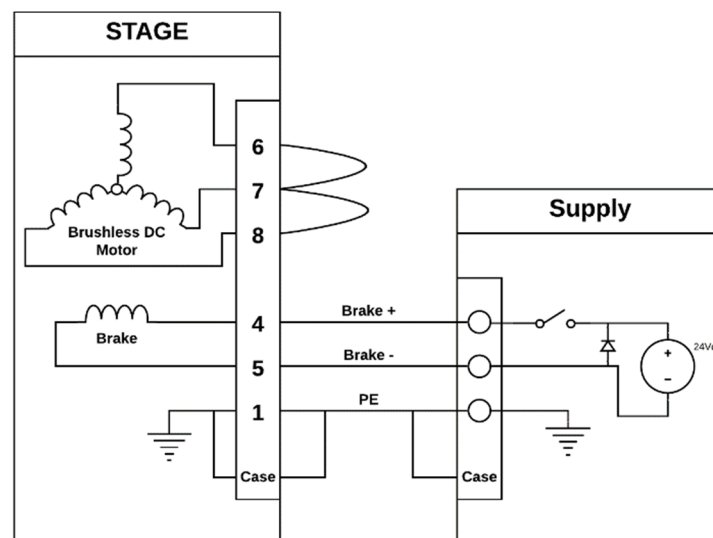

Figure 24. Example Brake override circuit
3. You can disengage the power off brake by applying 24V to the appropriate pins on the motor connector, see Table 14, Table 9, and Figure 24.